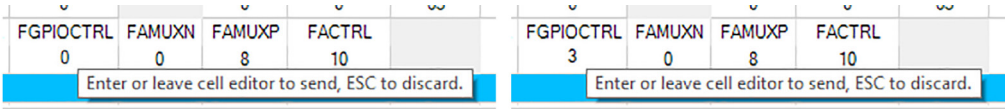

Figure 47. FGPICTRL Register Direct Access for Basic Operation Example
18. Change GPIO1 setting from register map from FGPICTRL: Values can also be just entered in the cell of FGPICTRL and confirmed by pressing the enter key (Figure 47).